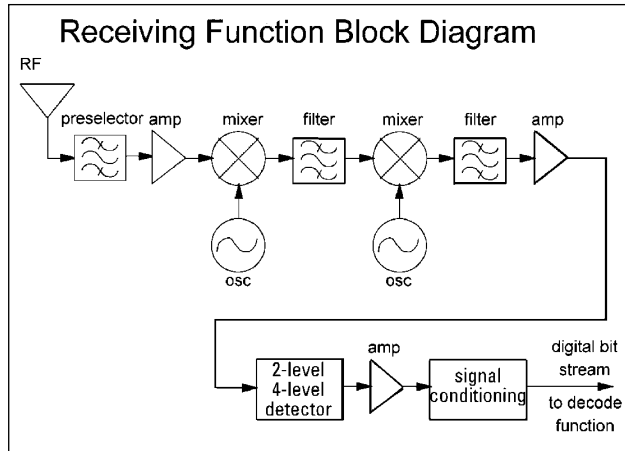

Figure 7. Typical pager receiver block diagram.
Figure 7 is a typical block diagram for a pager receiver. This receiver has a two-stage downconverter; other designs use only a single-stage downconverter. Often, the preselector, the first-stage mixer, and the first-stage local oscillator (LO), contain variable components that must be adjusted during production. Components used after the first stage mixer are generally fixed and do not require adjustment. Most manufacturing test is done to adjust the variable components in the pager receiver section. We will refer to this block diagram as we review each test.